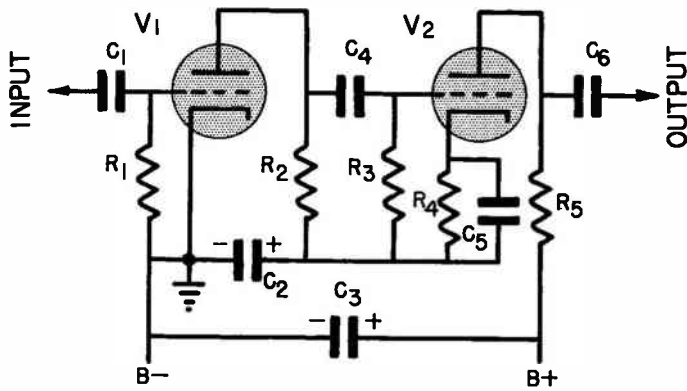

Fig. 21. Two tubes connected in series across the B supply.
Fig. 21 shows how two tubes may be connected in series across the power supply. In this case the dc path, starting from B-, goes to the cathode of V₁, then through this tube and its load resistor R₂ to the cathode bias resistor R₄ of V₂. From here, the path goes through tube V₂ and its load resistor R₅ to B+.
- (p) If R_5 in the plate circuit of V_2 in Fig. 21 opens, would you expect the plate voltage on V_1 to increase, decrease or drop to zero? (Use effect-to-cause reasoning; this question is not answered in the text.)